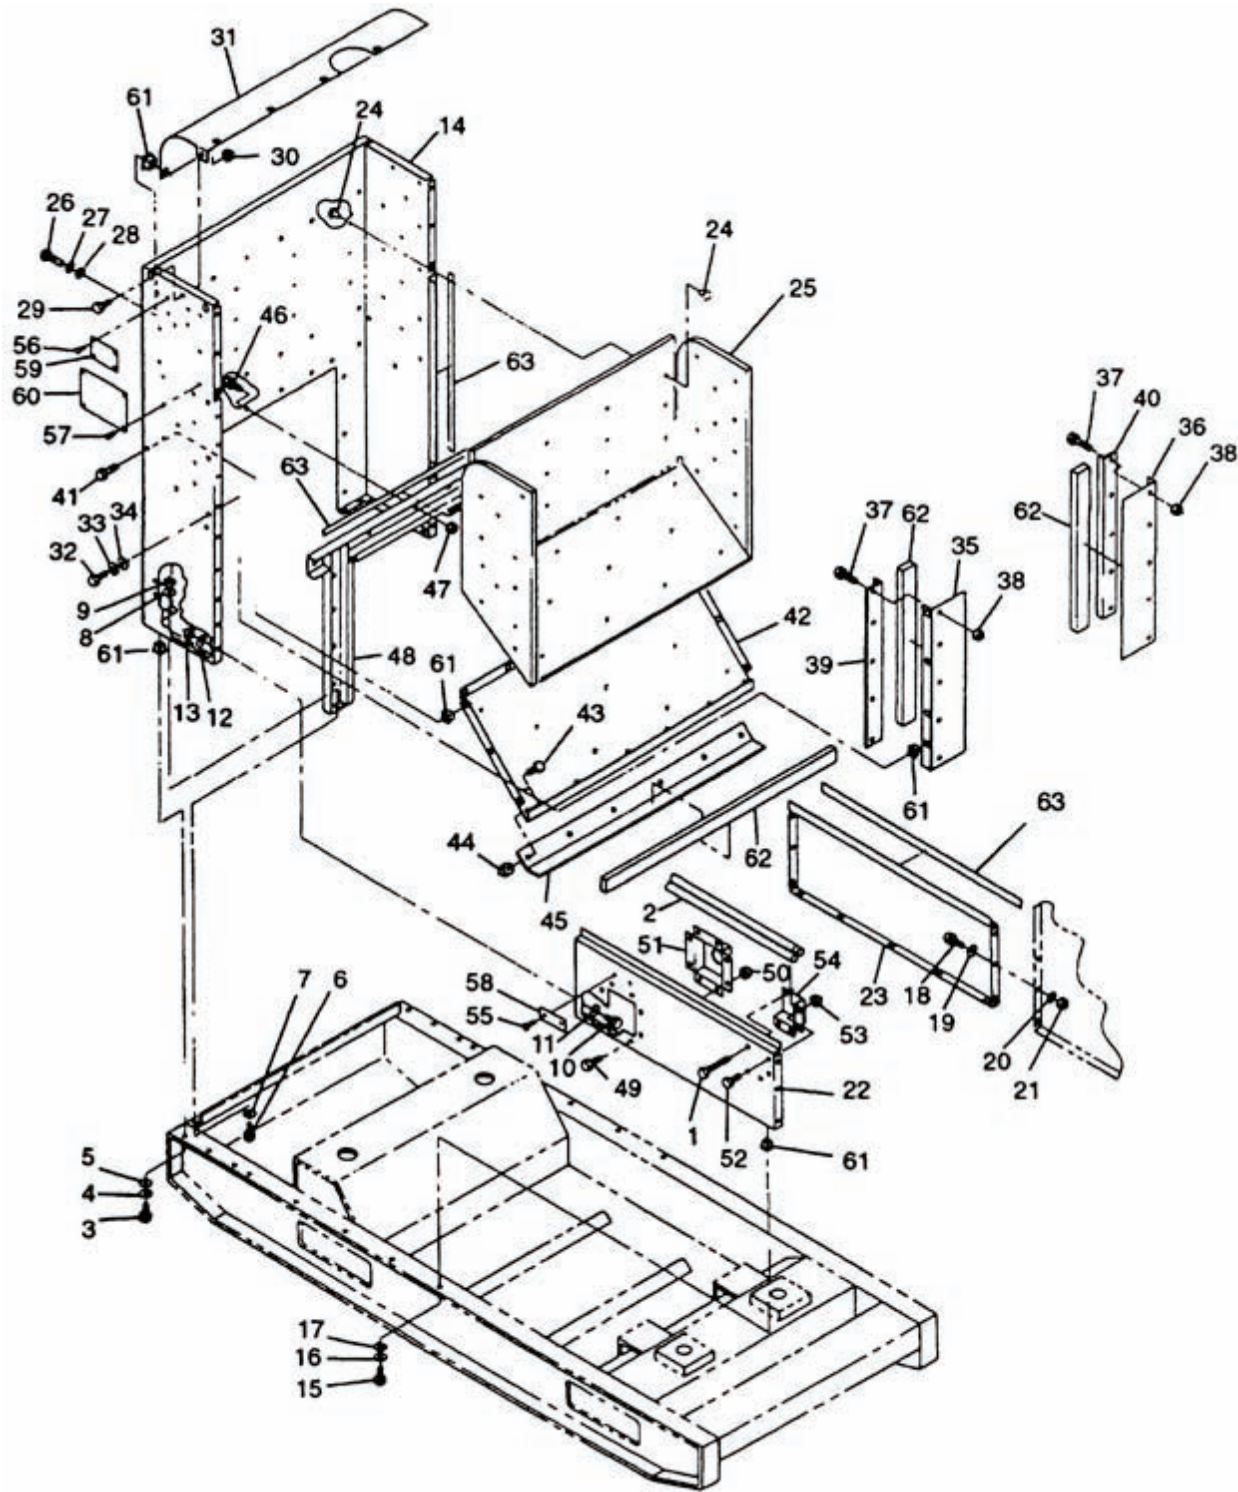

Figure 2-8. Generator Set Front Housing Section.
- f. Remove bolts (1, Figure 2-8) and ground rods (2) from brackets (54).
- g. Remove bolts (3, 6, and 10), flat washers (5, 7, and 11), lock washers (4, 8, and 12), nuts (9 and 13), and front panel (14) from generator set. Discard lock washers (4, 8, and 12).
- h. Remove bolts (15 and 18), flat washers (17 and 19), lock washers (16 and 20), nuts (21), and side panels (22 and 23) from generator set. Discard lock washers (16 and 20).
- i. Remove clip halves (24) and insulation (25) from front panel (14).
- j. Remove bolts (26 and 29), washers (28), lock washers (27), assembled nuts (30), and air deflector (31) from front panel (14). Discard lock washers (27).
- k. Remove bolts (32), lock washers (33), washers (34), and panels (35 and 36) from front panel (14). Discard lock washers (33).
- l. Remove bolts (37), assembled nuts (38), and supports (39 and 40) from panels (35 and 36).
- m. Remove bolts (41) and panel (42) from front panel (14).
- n. Remove bolts (43), assembled nuts (44), and support (45) from panel (42).
- o. Remove bolts (46), assembled nuts (47), and support channel (48) from front panel (14).
- p. Remove bolts (49), assembled nuts (50), and slave receptacle box (51) from side panel (22).
- c. Inspect all cage nuts (61, Figure 2-8) for cracking or stripped threads.
- d. Inspect insulation for damage and missing clip halves (24).
- c. Repaint surfaces in accordance with TM 43-0139. (F) Refer to applicable directives.
- d. Replace any cracked or stripped cage nuts (61, Figure 2-8).
- e. Replace damaged insulation and missing clip halves (24). Refer to Appendix D for fabrication of insulation.
- a. Install identification plates (58, 59, and 60, Figure 2-8) on front panel (14) and side panel (22) with rivets (55, 56, and 57), if removed.
- b. Install brackets (54) on panels (14 and 22) with bolts (52) and assembled nuts (53).
- c. Install slave receptacle box (51) on side panel (22) with bolts (49) and assembled nuts (50).
- d. Install side panels (22 and 23) on generator set with bolts (15 and 18), flat washers (17 and 19), new lock washers (16 and 20), and nuts (21).
- e. Install support channel (48) on front panel (14) with bolts (46) and assembled nuts (47).
- f. Install support (45) on panel (42) with bolts (43) and assembled nuts (44).
- g. Install panel (42) on front panel (14) with bolts (41).
- h. Install supports (39 and 40) on panels (35 and 36) with bolts (37) and assembled nuts (38).
- i. Install panels (35 and 36) on front panel (14) with bolts (32), new lock washers (33), and washers (34).
- j. Install air deflector (31) on front panel (14) with bolts (26 and 29), washers (28), new lock washers (27), and assembled nuts (30).
- k. Install insulation (25) on front panel (14) with clip halves (24).